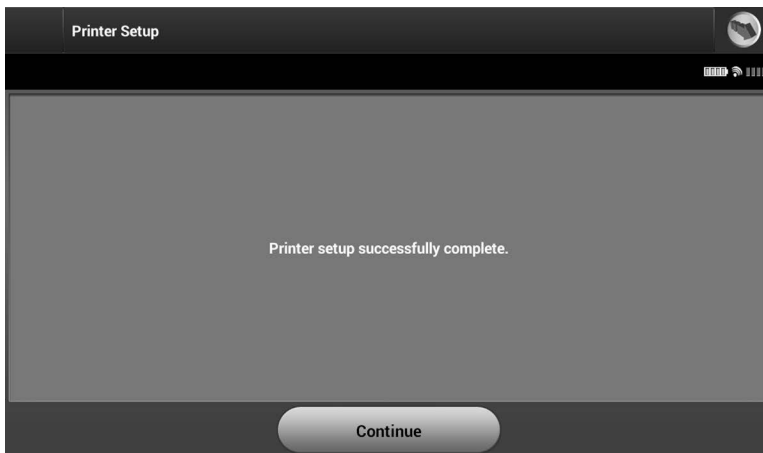

Figure 12: Printer Setup confirmation screen
6. Select the Save button to save the changes and return to the Programmer Settings screen, or select Cancel to return to the Programmer Settings screen without saving the changes. A confirmation screen will appear when the printer setup is completed (Figure 12).